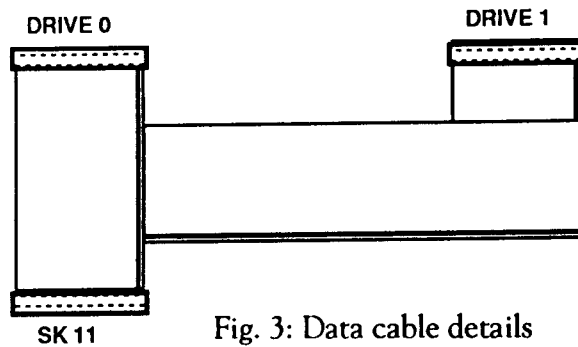

Fig. 3: Data cable details
- Unplug and remove the ribbon-type data cable which connects SK11 on the main printed circuit board to the connector on the rear of the original disc drive 0. Plug the centre connector on the new dual drive cable assembly to drive 0 and the end connector to SK11 (see Fig. 3).